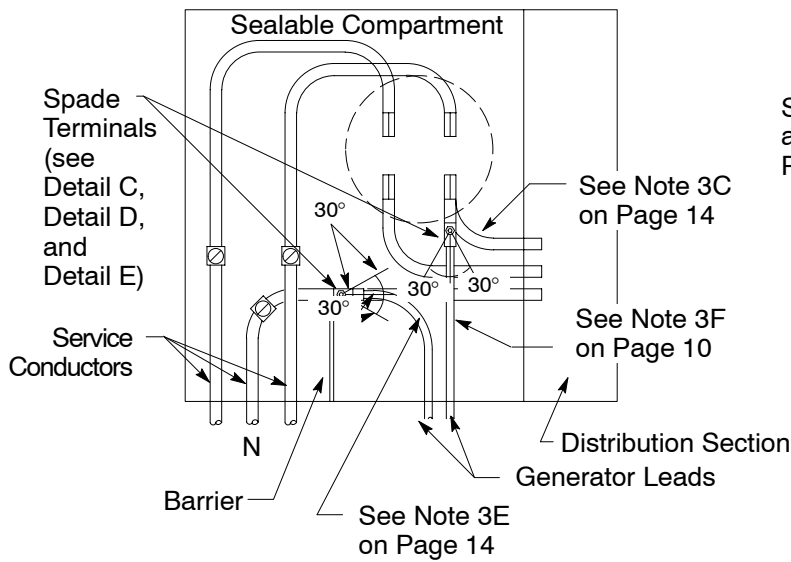
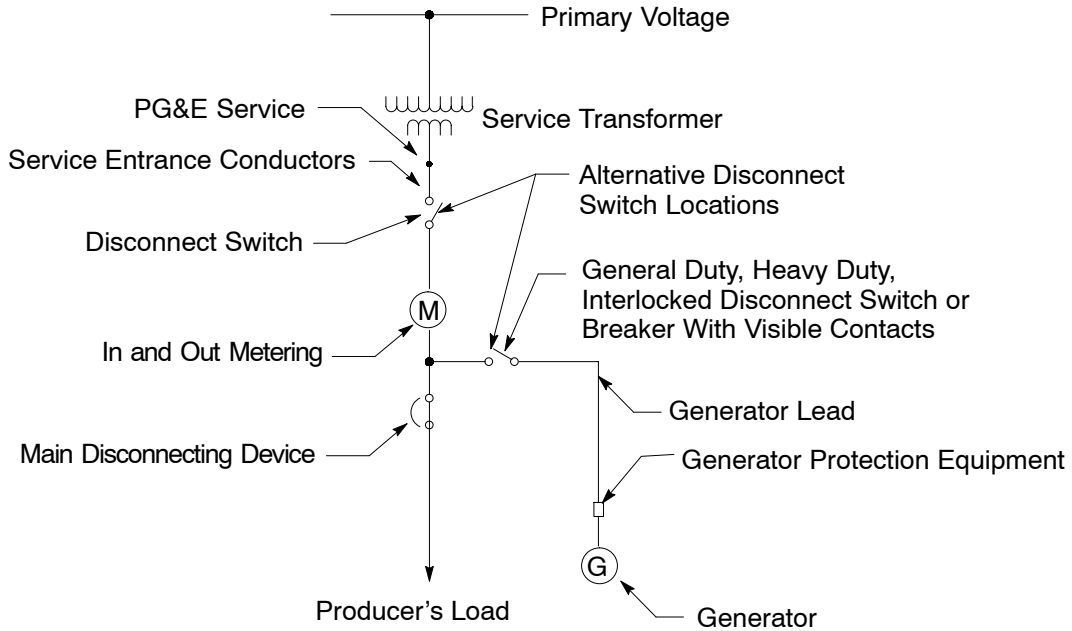
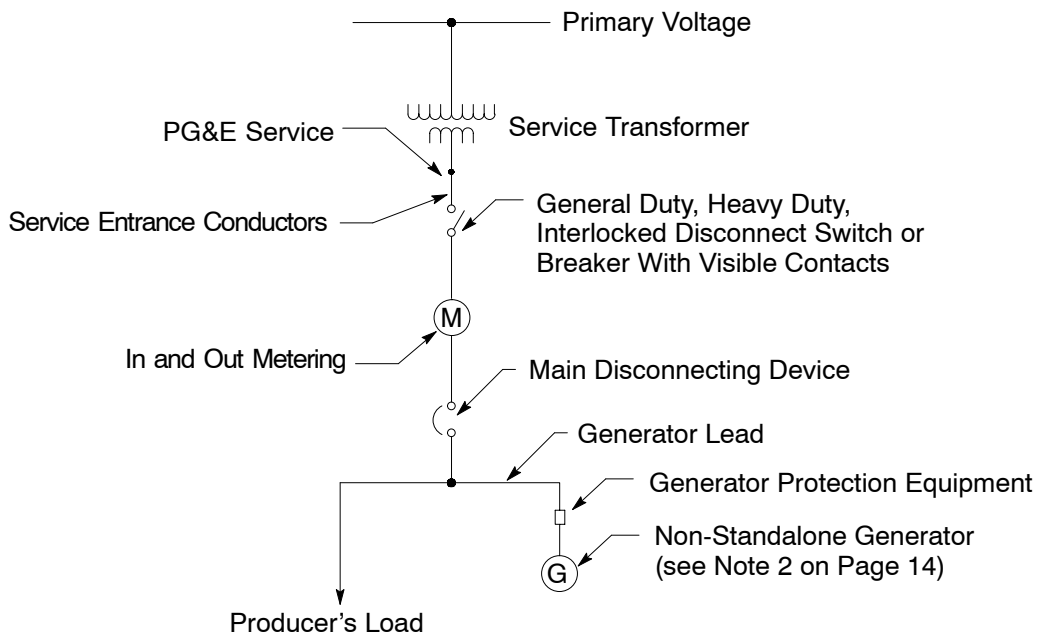

Figure 6
Figure 8
Figure 9
1. Producer-installed 240 and 600 V disconnect devices may be connected within 10' on the load side of the meter (see Figure 6 on Page 15 and Figure 9 on Page 16) or on the source side of the meter (see Figure 6 on Figure 7 and Figure 8 on Pages 15 and 16).
- C. The disconnect switch is connected as shown in Figure 9 on Page 16.